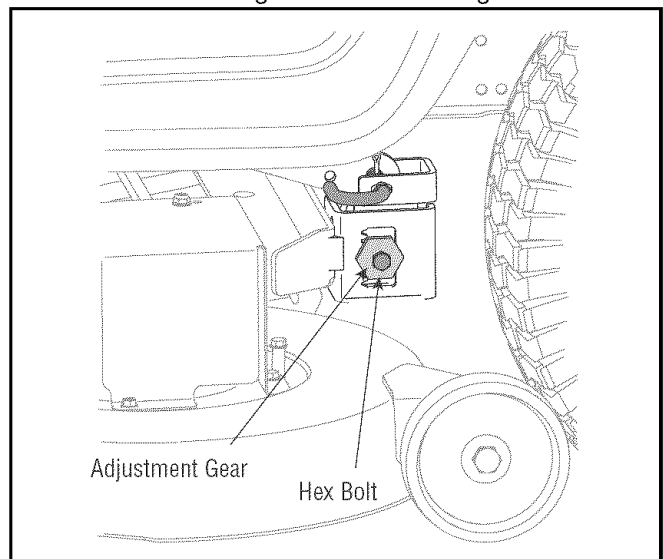

Figure 11
- Loosen, but do NOT remove, the hex cap screw on the left deck hanger bracket. See Figure 11.